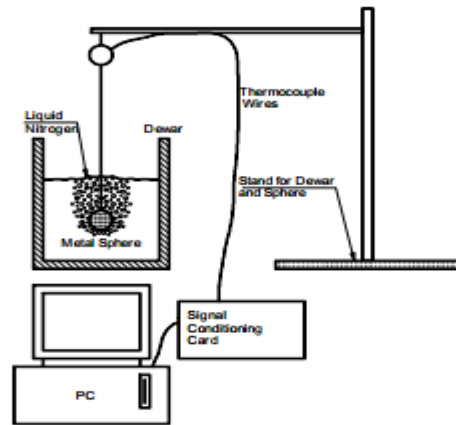

Figure 2. Experimental setup for measuring transient temperature of a metal sphere cooled in liquid nitrogen (not to scale).
2. Consider a hot metal sphere, initially at a temperature of T_i , that is suddenly quenched in a large pool of saturated liquid at $T_{bp} < T_i$ (see Fig. 2). If the excess temperature, $(T_i - T_{bp})$ is between about 5 and 30 °C, what is this boiling regime called? Describe the boiling phenomena in this regime.
A brass fin of circular cross section is fitted across a long rectangular duct. The other end of the duct is connected to the suction side of a blower and the air flows past the fin perpendicular to the axis. One end of the fin projects outside the duct and is heated by a heater. Temperature at five points along the length of the fin. The air flow rate is measured by an orifice meter fitted on the delivery side of the blower. Schematic diagram of the set up is shown in fig. 2, while the details of the pin fin are as per fig. 3.